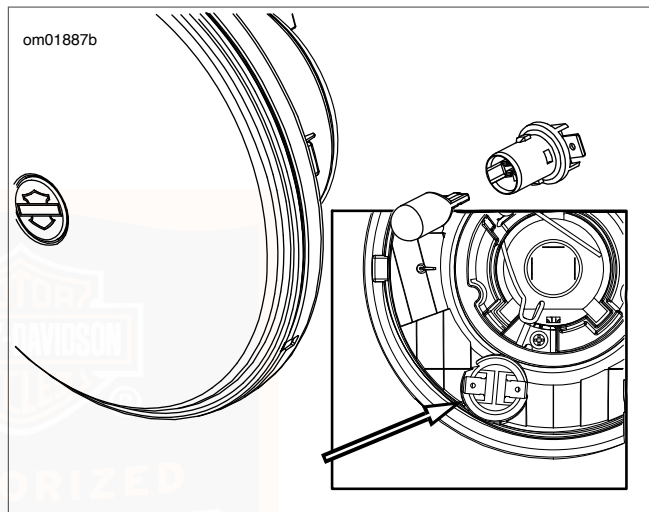

Figure 61. Position Lamp
3. See Figure 61. Remove the spade connectors from the bulb.